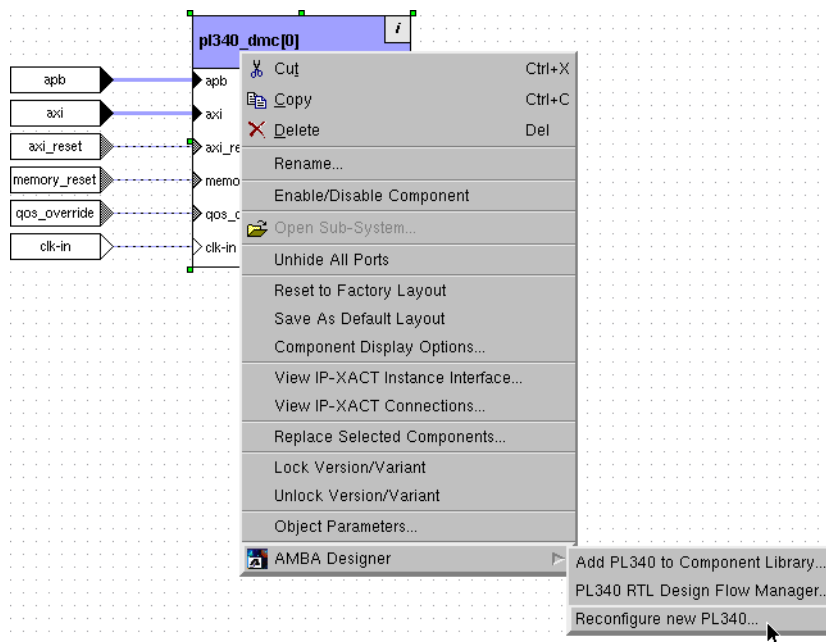

Figure 5-9 Reconfigure PL340 selection
4. Select **AMBA Designer** → **Reconfigure new PL340...** from the context menu, as Figure 5-9 on page 5-14 shows. This opens the PL340 reconfiguration dialog box.